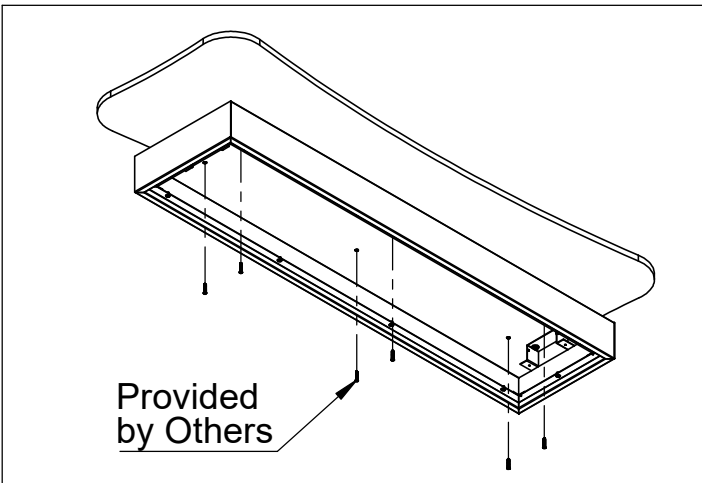

Figure 3
3. Raise fixture and mount in desired location with mounting hardware (provided by others) (Fig. 3)